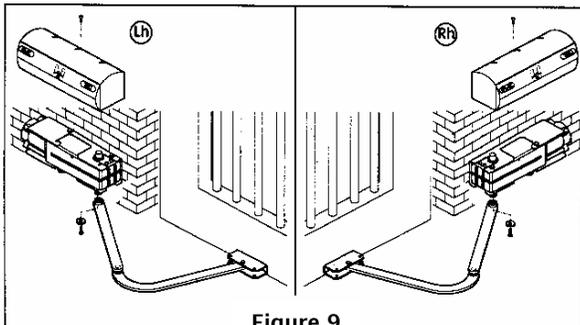

Figure 9
- * Attach the articulated arm to the 390 Operator with the supplied screw and washer. Figure 9.
Figure 9 shows how to attach the articulated arm and operator cover to the operator.